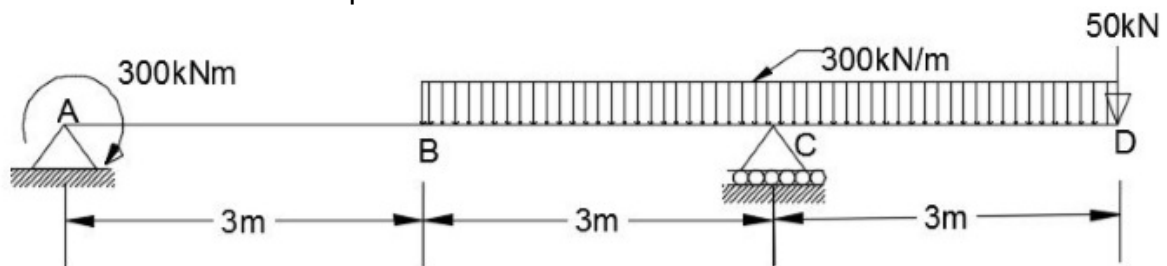

Figure 4b
- B) For the beam shown in figure 4b. Draw the shear force and bending moment diagram and mark salient points. (10)